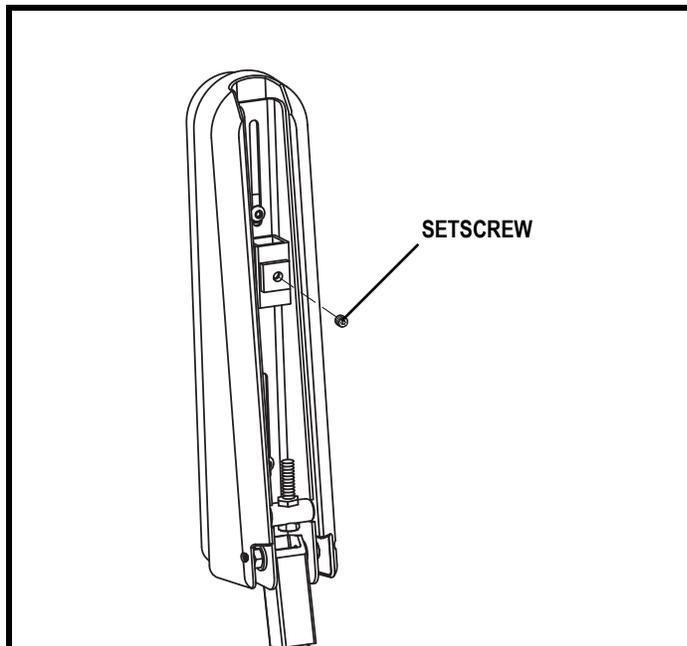

Figure 14. Underside of Armrest
1. Loosen the setscrews on the armrest. **See figure 14.**
2. Loosen the setscrew on the controller bracket. **See figure 14.**
5. Loosen the setscrew on the underside of each armrest. **See figure 14.**